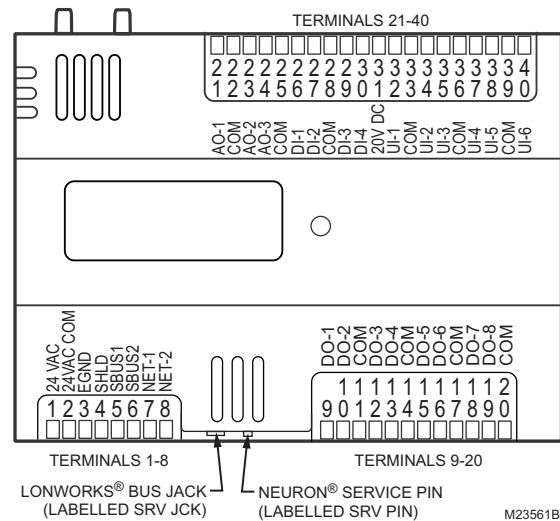
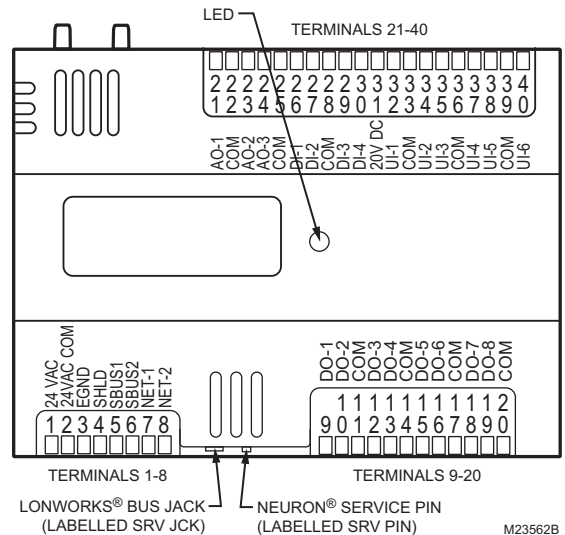

Fig. 16. Controller Terminal Connections, NEURON® Service Pin, & LONWORKS® Bus Jack for the CP-UL6438S, CP-VL6436AS, and CP-VL6438NS (CP-VL6438NS shown).
Fig. 25. LED, service pin, and network connection locations.
All controllers have the terminal arrangements similar to the examples shown in Fig. 16 and Fig. 17 as described in Table 6 on page 12 and Table 7 on this page.
The NEURON® Service Pin pushbutton (when pressed) transmits the Service Message to the network, regardless of the controller's current mode of operation (see Fig. 16 and Fig. 17).
The LONWORKS Bus connection is provided by plugging the Serial LONTALK® Adapter (SLTA) connector into the LONWORKS® Bus Jack (see Fig. 16 and Fig. 17).
Refer to Fig. 25 and the following text for startup information.
- To send the Service Message from the controller, press the NEURON® Service Pin pushbutton on the controller (see Fig. 25 above, and Fig. 16 and Fig. 17 on page 14). This button sends out the Service Message when it is pressed, regardless of the controller's current mode of operation.